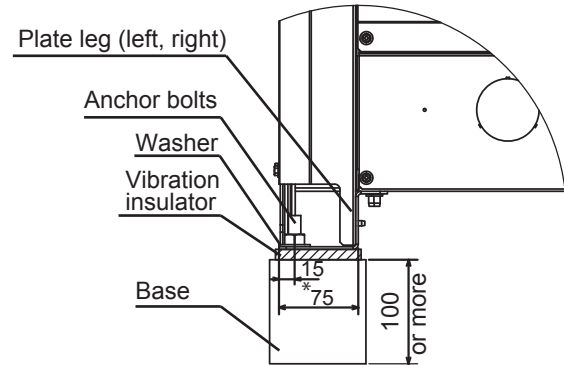

Fig. 2-4-21d
- (3) The vibration insulator or the like should be kept secure to satisfy the width and depth of 100mm for the plate legs.
(See the dimensions marked by the asterisk at Fig. 2-4-21d - 2-4-21f.) Use a washer from the upper direction larger than the hole size for fixing the installation. The models 18 and 20 have four (4) anchor bolts respectively as same as others.